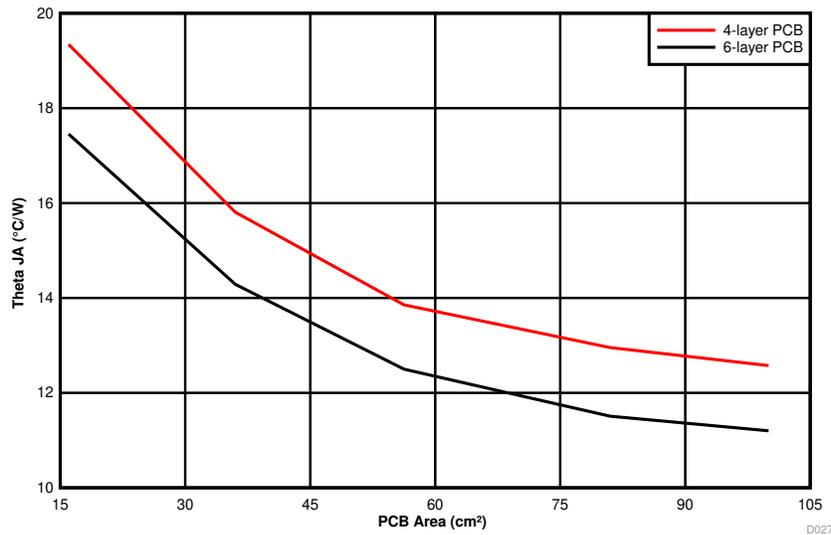

Figure 52. θ_{JA} vs PCB Area
The amount of PCB copper effects the thermal performance of the device. Figure 52 shows the effects of copper area on the junction-to-ambient thermal resistance ($R_{\theta JA}$) of the LMZM33604. The junction-to-ambient thermal resistance is plotted for a 4-layer PCB and a 6-layer PCB with PCB area from 16 cm² to 100 cm².
3. Reference Figure 52 to determine the minimum required PCB area for the application conditions.